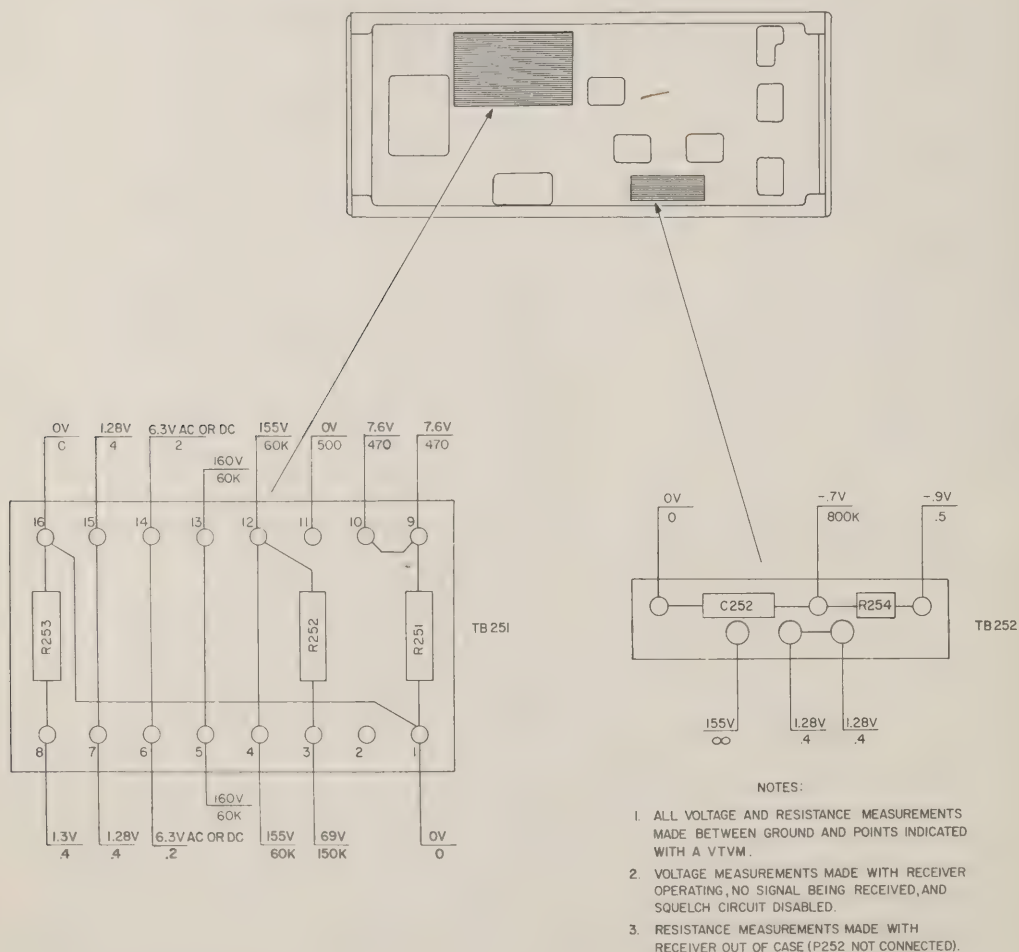

Figure 55. Radio Receiver R-394/U, voltage and resistance measurements of base.
c. Resistance measurements between points in the receiver base will aid in detecting open circuits. Figure 55 shows voltages obtained in the receiver base when the receiver is operating. Resistance measurements are taken with the receiver disconnected from the radio set case.